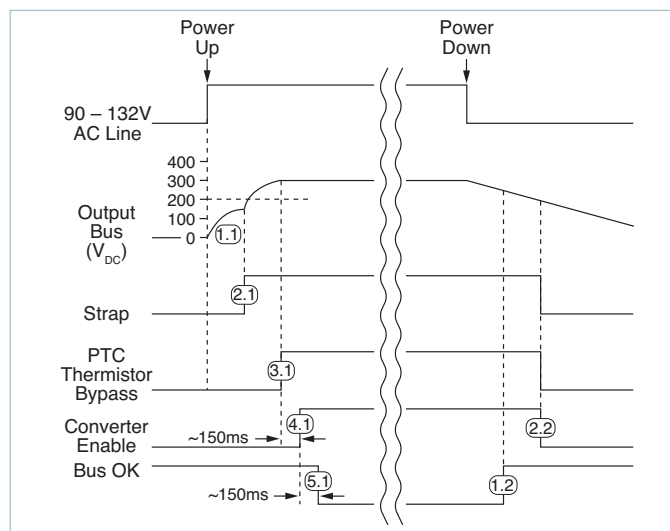

Figure 8 — Timing diagram: power up/down sequence
### Power Up Sequence (See Figure 8):
**Power Down Sequence:** (See Figure 8). When input power is turned off or fails, the following sequence occurs as the bus voltage decays: